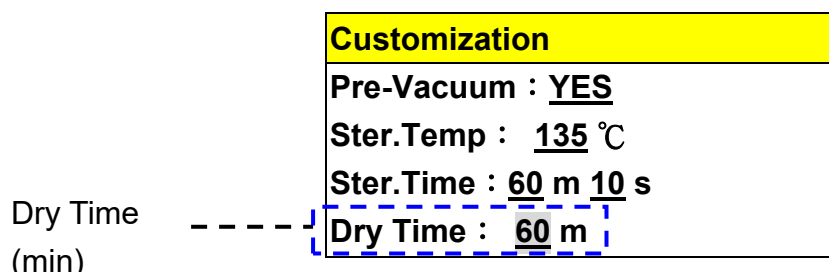

Figure 80
- G. Press  or  button to move the cursor as shown in Figure 80
- Press  button to store dry time parameter as shown in Figure 80.